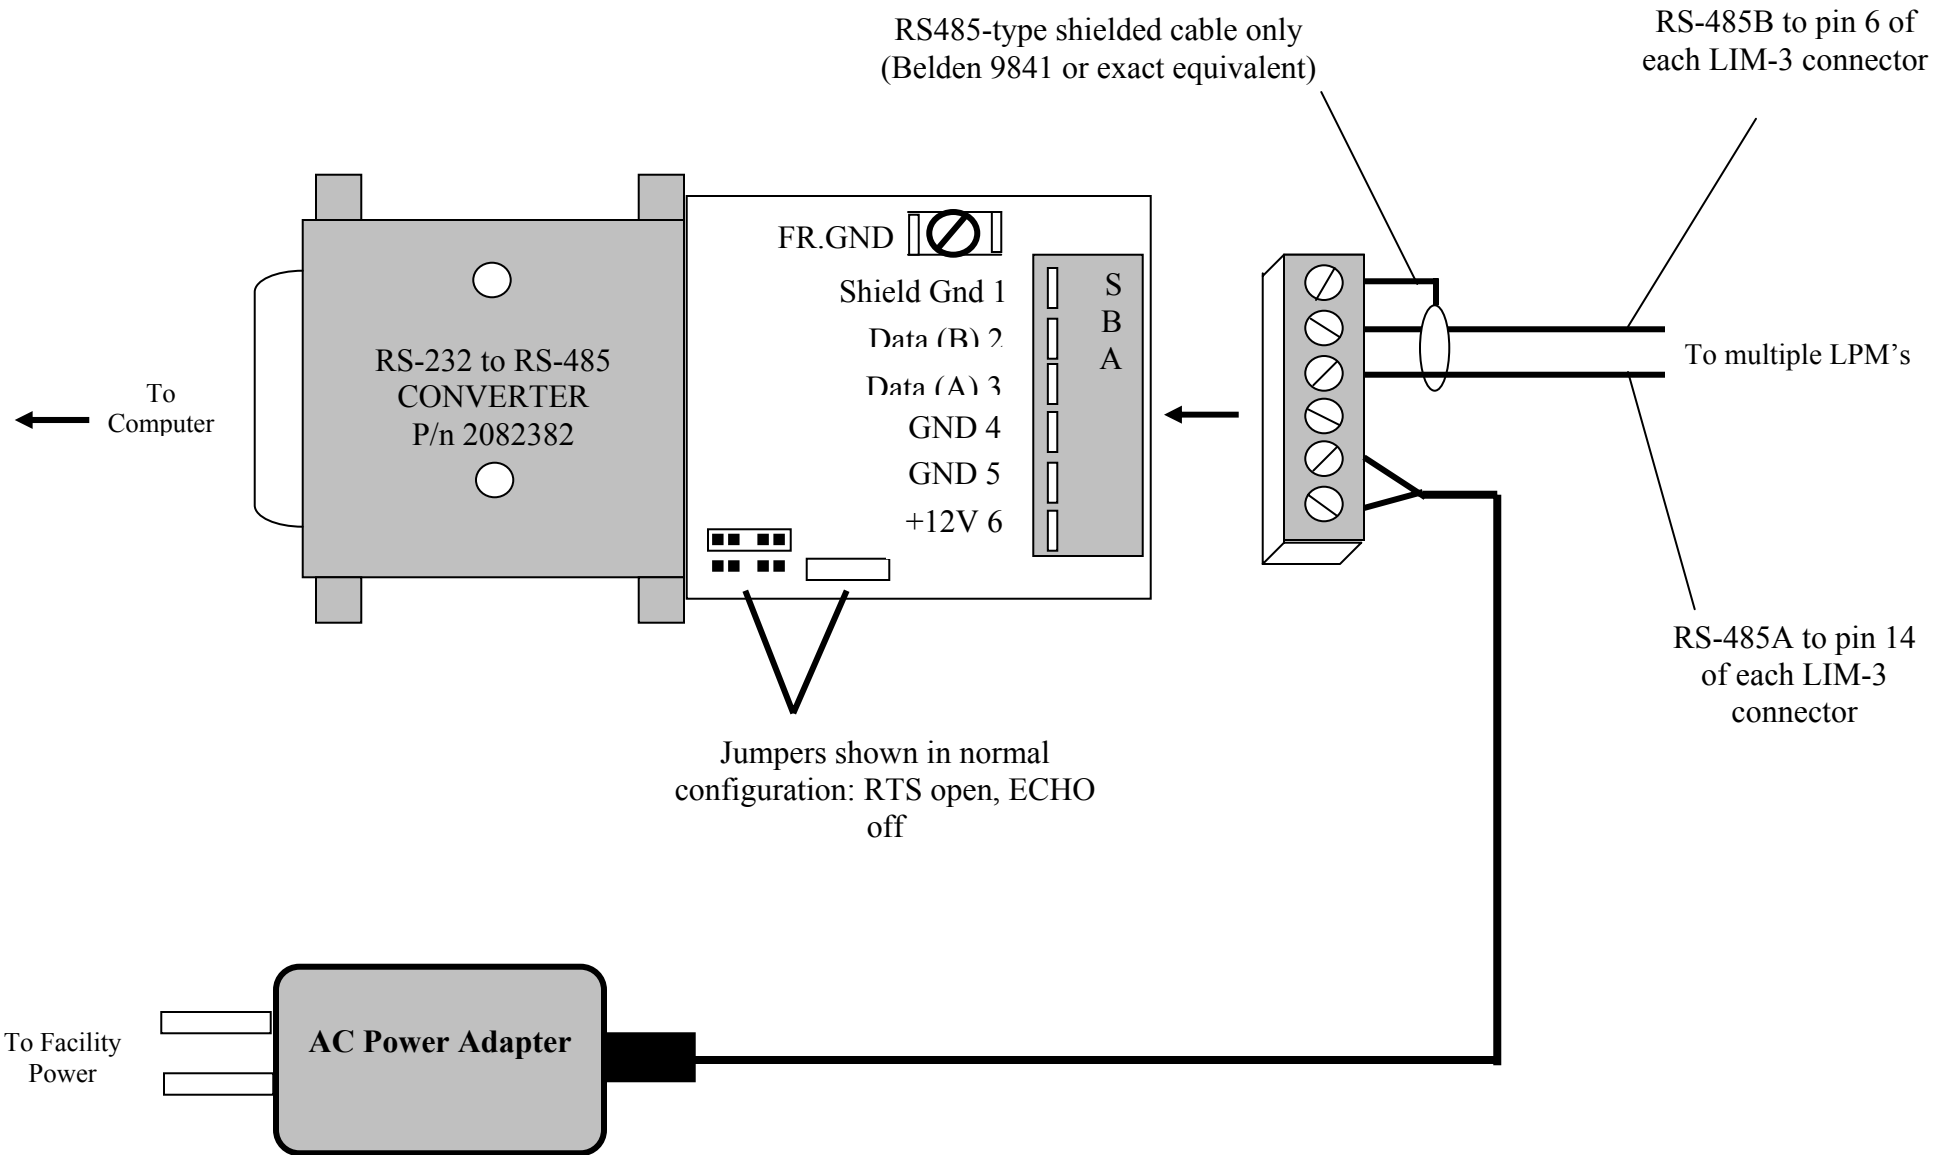

Figure 23. Using the RS232-to-RS485 Converter in Multiple Applications
- RS-232/RS-485 converter — changes typical RS-232 serial output of computers to RS-485 (figure 23)
- Figure 23 displays connecting information to an RS232-to-RS485 converter in applications of multiple LIM modules